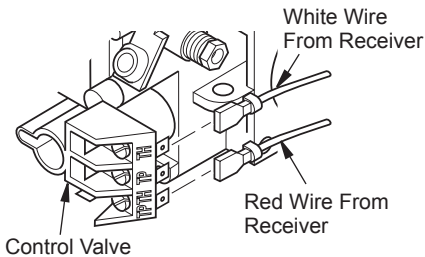

Figure 23 - Connecting Wires
9. Connect wires to control valve at the TPTH and TH locations as shown in Figure 23.